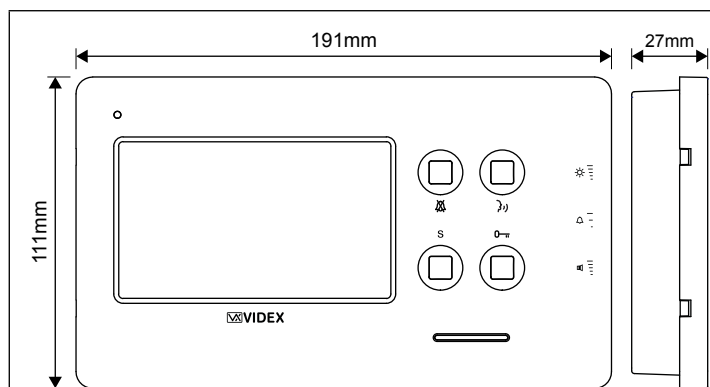

Fig. 1
1. Place the surface box against the wall (165-170cm between the top of the box and the floor level as shown in **Fig. 1**) and mark the fixing holes for the wall plugs and the hole for the cables **(E)** (**fig. 2**). Observe the orientation of the box with the hinge on the left;
1. Protect the module support frame fixing holes from dust then embed the back box into the wall (165-170cm between the top of the box and the floor level as shown on the **Fig. 1**) feeding the cables **(E)** (**Fig. 2**) through a previously opened hole in the box. Observe the direction of the box ensuring the hinge is on the left and take care that the box profile is in line with the finished wall profile;